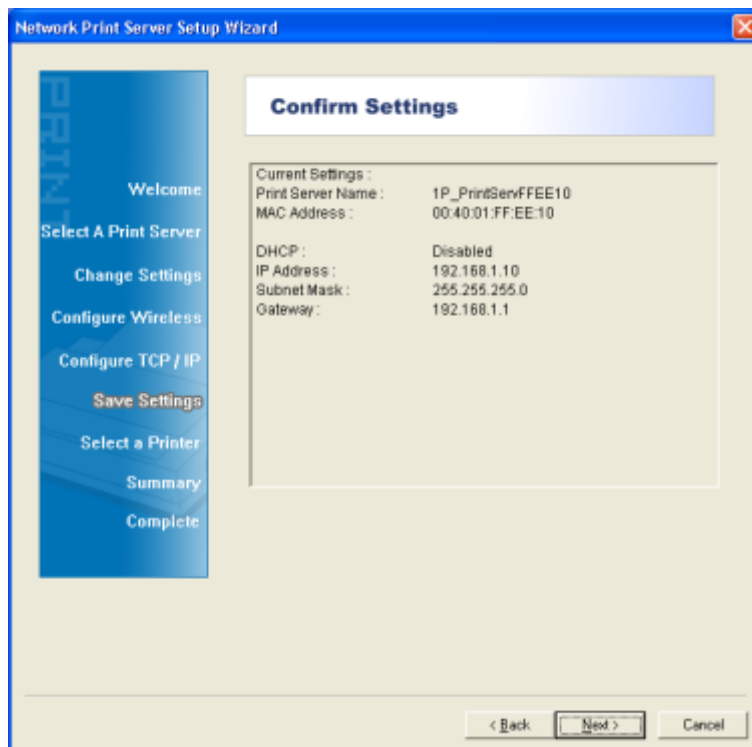
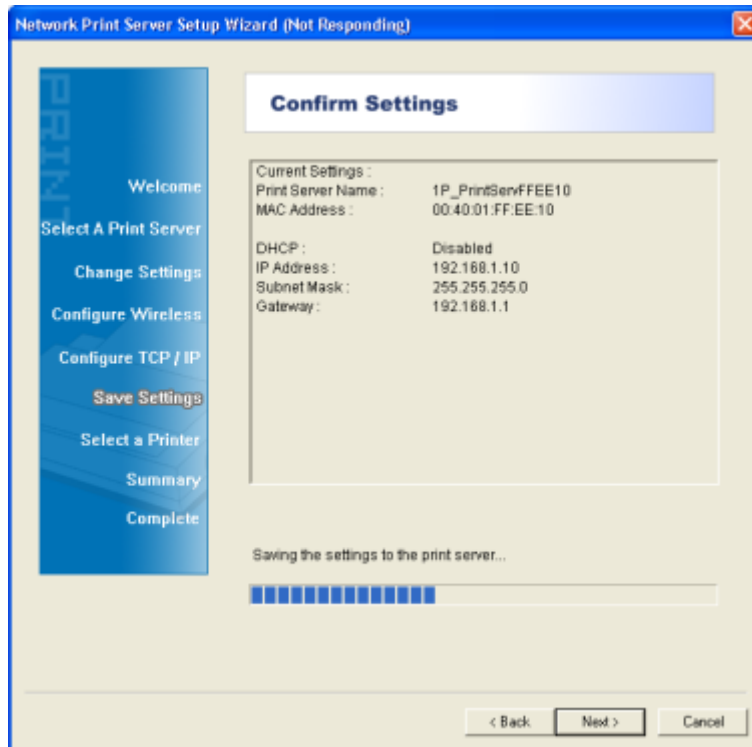

Figure 3-7
Figure 3-8
7. Confirm your settings on the screen in Figure 3-7. Click **Next** and your changes will be saved as shown in Figure 3-8.